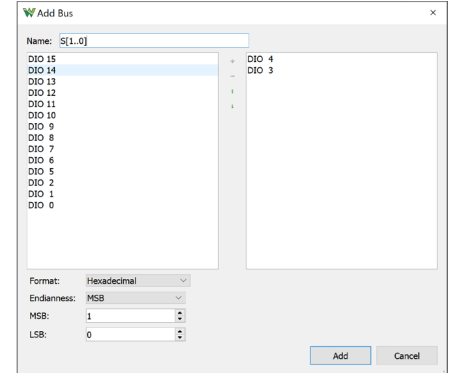
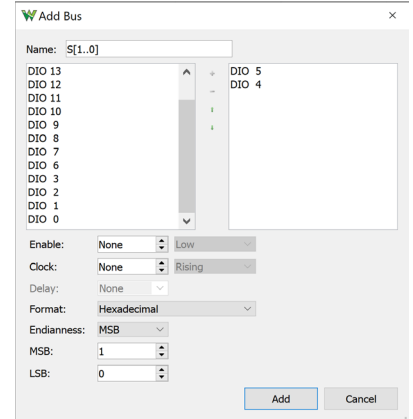
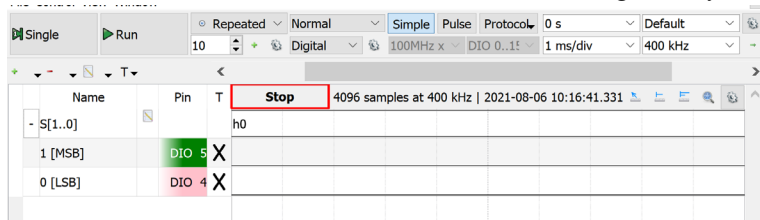

Figure 10: Setting up a Patterns Bus
Figure 18: Setting up a Bus
Figure 19: Logic Analyzer Default Bus
**Setting up a Bus (also called Signal Array):** Configure Digital I/O signal bus as seen in Figure 10 by selecting the green +, bus. Give your bus a name such as S[1..0]. Select DIO 3 by selecting it and pressing the green +. Do the same with DIO 4. You can rearrange the order of the signals by selecting the signal that is out of order and pressing the green arrow. You can select multiple signals at a time by selecting one signal and holding shift. Change the format to hexadecimal. Change Endianness to MSB. Press ok. You can change these settings at any time by pressing on properties.
**Setting up a Bus:** Configure Digital I/O signal bus as seen in Figure 10 by selecting the green +, bus. Give your bus a name such as S1:0. Select DIO 4 by selecting it and pressing the green +. Do the same with DIO 5. See Figure 18. You can rearrange the order of the signals by selecting the signal that is out of order and pressing the green arrow. You can select multiple signals at a time by selecting one signal and holding ctrl. Change the format to hexadecimal. Change Endianness to MSB. You can also add an Enable (as a low or high enable) and Clock (with a rising or falling edge) to your bus. This will be explored in the next exercise. Press ok. Your bus should look like Figure 19. You can change these settings at any time by pressing on properties.